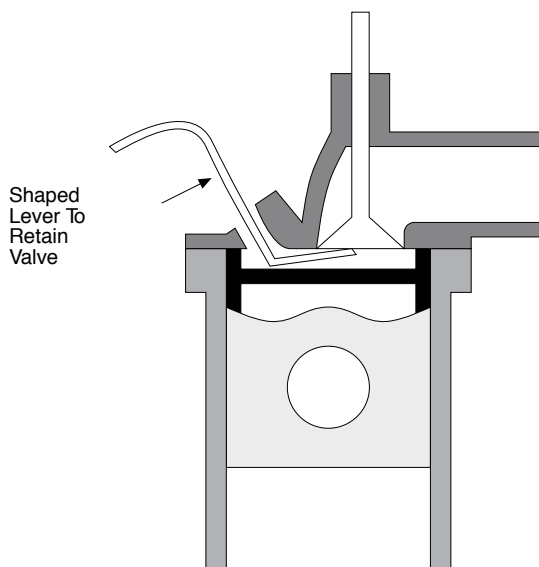

Fig. 3
3. Hold the valves in place with a suitable lever passed through the spark plug hole (fig. 3). Such levers are best developed at the time a separate head is available and then retained for future use. Care must be taken not to damage the screw threads in the spark plug hole and a second person may be required to hold the lever.